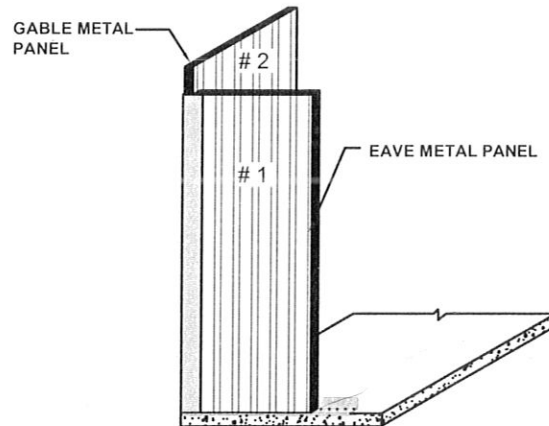

FIGURE 8
8.0 After determining the width of first (1st) gable panel, it is now ready to erect. After both panels of first (1st) corner are erected, they should look like figure 8.